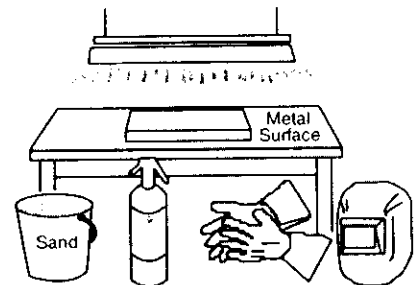

Figure 5. Work Area
- Prepare an organized, well lighted work area (see Figure 5).